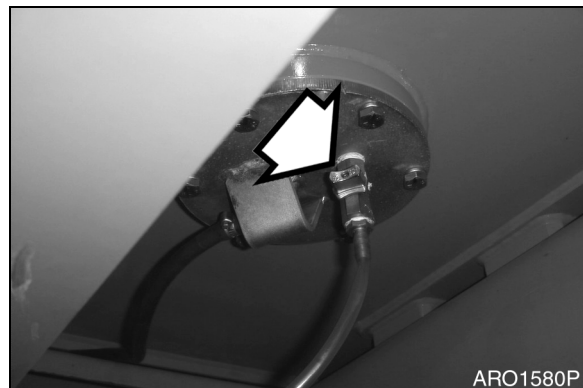

Figure 19
12. Make sure fuel tank drain valve (Figure 19) on bottom of tank is closed.